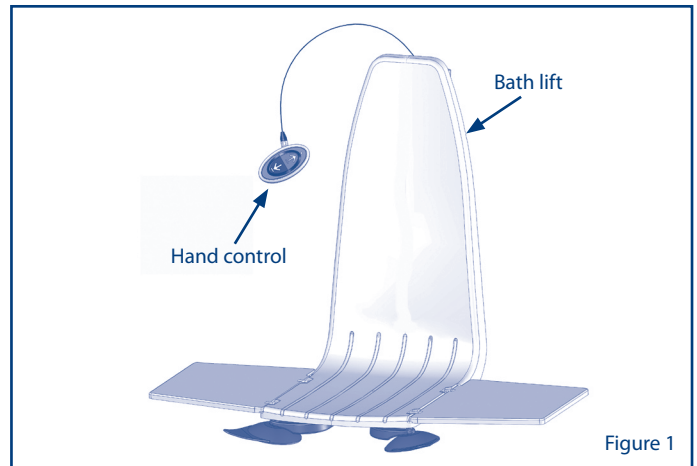

Figure 1
- A Neptune Bath Lift, complete with two side-flaps and hand control attached (see fig 1)